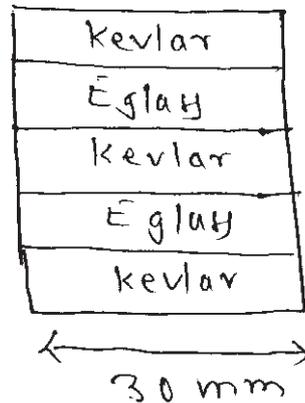

Fig 1
- b) A steel beam with bending stiffness, 30kN/m is to be replaced with hybrid beam having kevlar and E glass laminates. The fibers are laid unidirectionally along beam axis. Thickness of kevlar ply is 0.15 mm and glass ply is 0.13 mm. Determine the number of plies in each laminate. Take $E_{\text{glass}} = 43 \text{ GPa}$ & $E_{\text{kevlar}} = 76 \text{ GPa}$ Refer to fig 1 for hybrid beam configuration. [8]